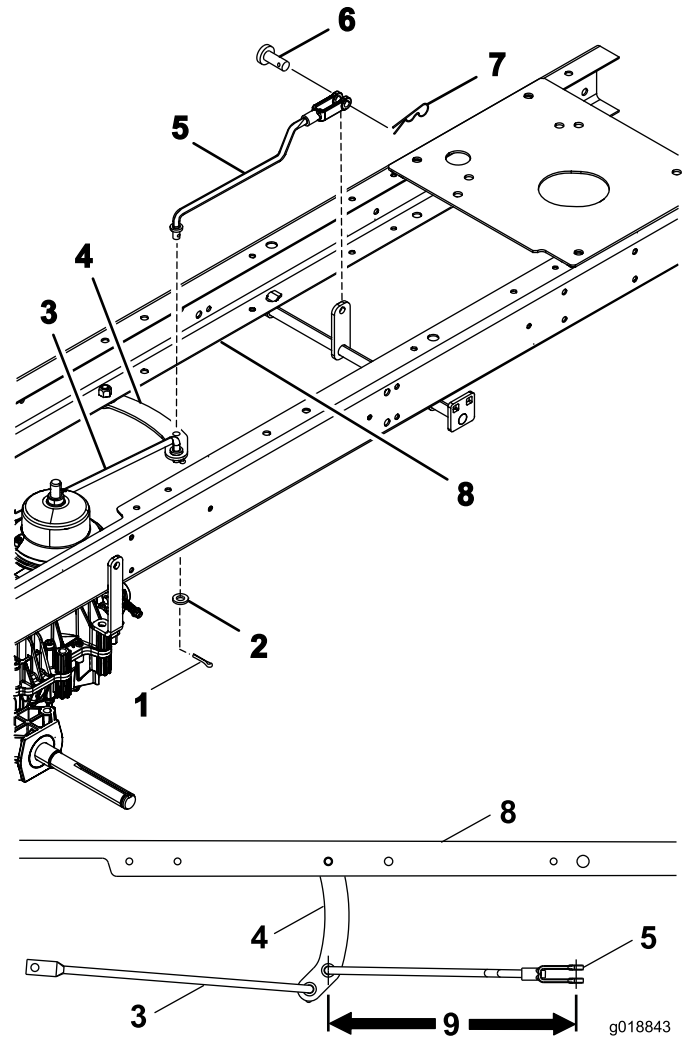

Figure 4
- Install the front motion control link arm to the traction bracket link arm using the flat washer and hairpin cotter (Figure 4).
- Install the other end of the front motion control link arm and adjust the yoke as noted in Figure 4.